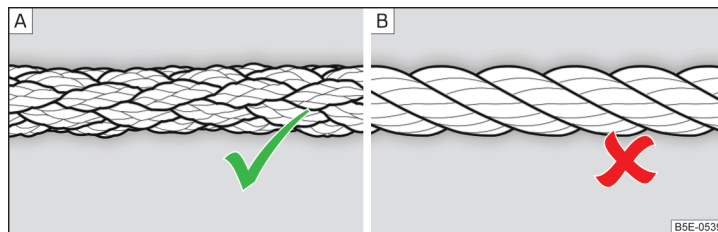

Fig. 189 Braided tow ropes/spiral tow rope
To tow with a tow rope, only use a braided synthetic fibre rope » Fig. 189 - **A** » .
- Spiral tow ropes must not be used for towing » Fig. 189- [B], the towing eye may unscrew out of the vehicle - There is a risk of an accident.